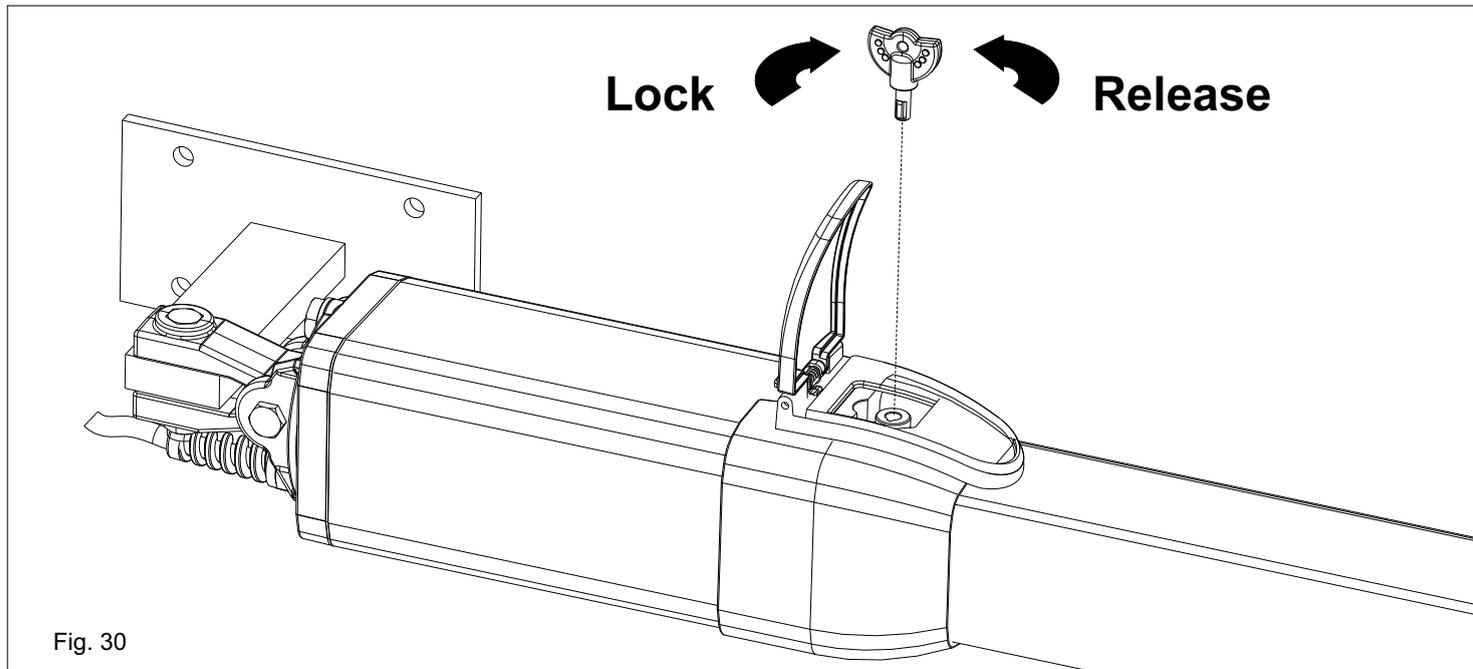

Fig. 30
- 1) Release the operator (as in Fig. 30)
- Release the unit (as in Fig. 30)
-Insert the key and turn it about 180° anti-clockwise (Fig.30).
-Insert the key and turn it clockwise until it stops (Fig.30).